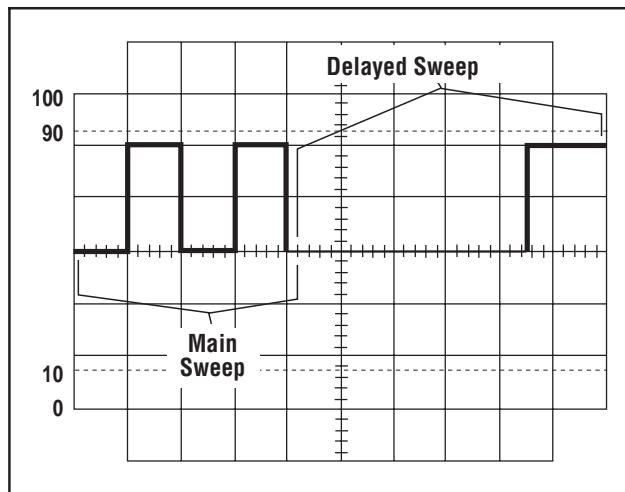

Fig. 5. MIX SWEEP MODE Display.
### DELAYED SWEEP OPERATION (Models 2125C & 2160C) (Refer to Fig. 5)
2. Set the **Sweep Mode** switch to the **MIX** position. The display will show the main sweep on the left portion (representing the **MAIN Time Base** control setting) and the delayed sweep on the right portion (representing the **DELAY Time Base** control setting). The **MAIN Time Base** portion of the trace usually will be brighter than the delayed time base portion. Fig. 5 shows a typical display for the **MIX** display mode.